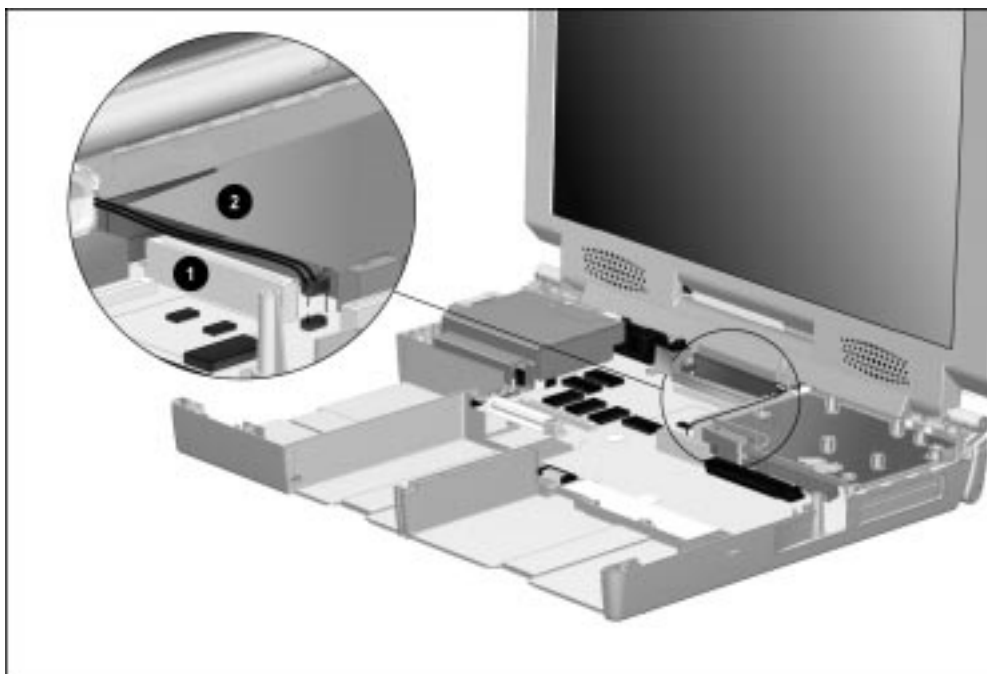

Figure 5-43. Routing the Auxiliary Battery Cable
CAUTION: When installing the audio assembly bracket, make sure the auxiliary battery cable is routed between the modem connector ❶ and the audio assembly bracket ❷. Make sure the cable is not pinched by the screw standoff on the audio assembly bracket (Figure 5-43).